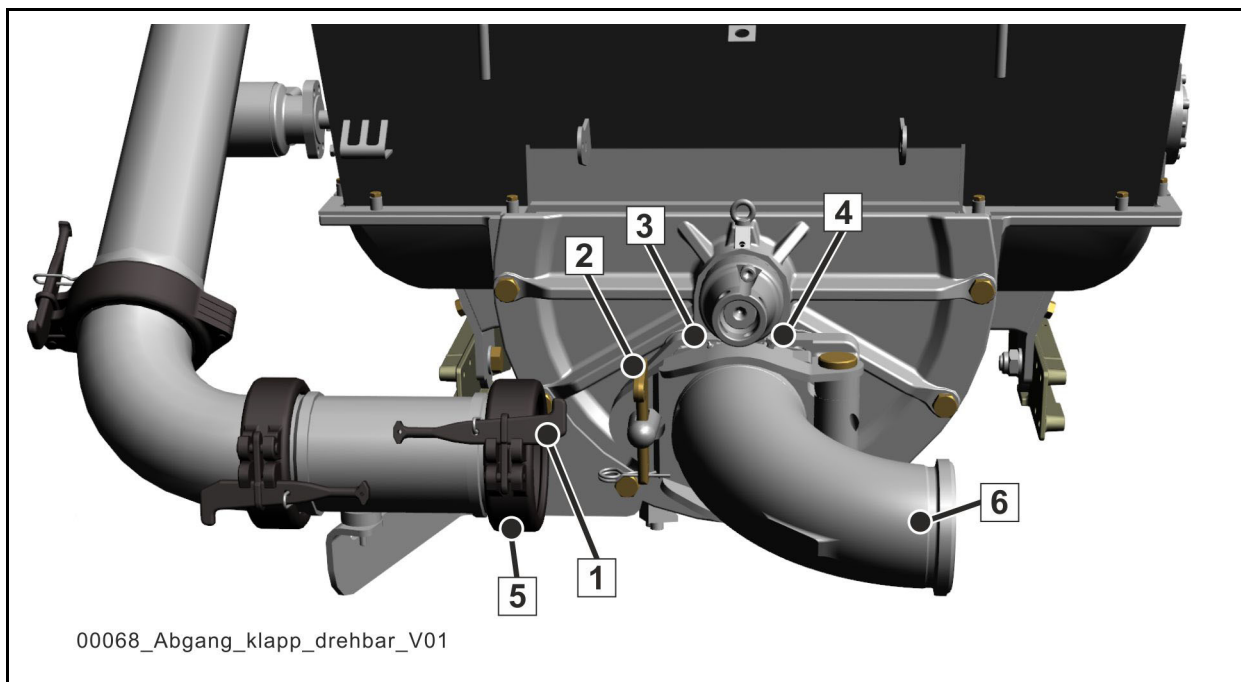

Fig. 174 Outlet, foldable and rotatable
In order to connect a separate pumping line more easily, certain SCHWING truck-mounted concrete pumps can be optionally equipped with a foldable and rotatable outlet (6; **(Fig. 174)**).
- 1 Pull the clip pin and remove the wedge (1) and coupling (5) first
- 2 Pull the clip pin and remove the wedge (2)
- 4 Loosen both the safety screw (4) and the second safety screw offset by 180° by approx. half a rotation
- 5 Rotate the foldable and rotatable outlet into the required position (e.g. 6; **(Fig. 174)**) and fold it back
- 6 Reinsert the wedge (2), but do not hammer it in place yet
- 7 If necessary, correct the position of the foldable and rotatable outlet and then hammer the wedge (2) down. Secure the wedge using the clip pin.
- 8 Reattach the upper and lower safety screws (4) Connect a separate pumping line.